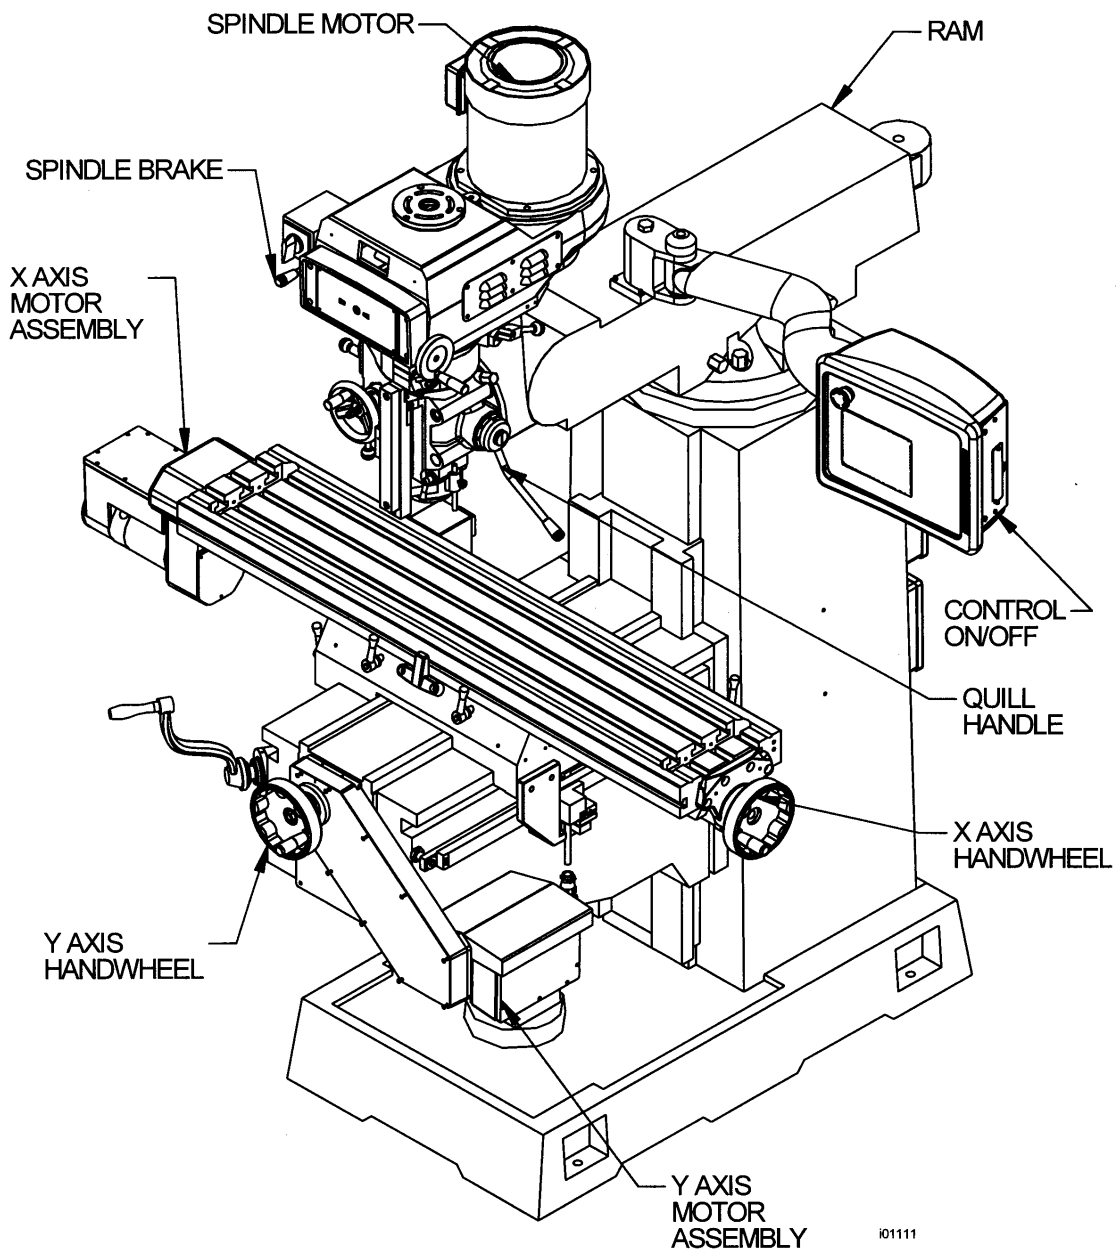

FIGURE 3.3.1 *The TRAK Knee Mill Machine Overview*
3.3 TRAK Knee Mill Specifications *(See Figures 3.3.1 and 3.3.2)*